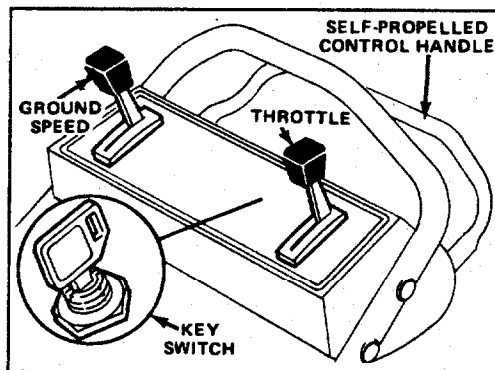
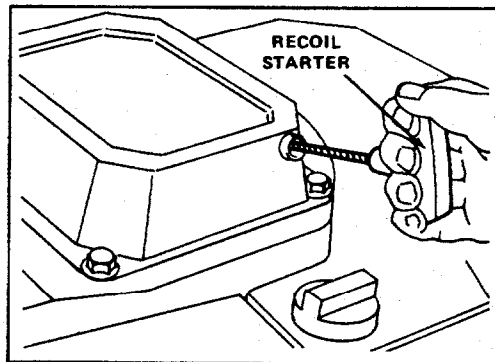

Figure 9
Figure 11
1. **CONTROLS**—Key switch (Model 26624 only), throttle, ground speed control, and blade/self-propelled control bar are on upper handle (Fig. 9). Recoil starter is on top of engine.
3. Move ground speed control to "N" (Fig. 9).
4. **KEY-ELECTRIC STARTING** (Model 26624 only)—Move throttle (Fig. 9) to CHOKE. Turn key (Fig. 9) to START and release when engine begins running. Regulate throttle as desired. If the battery's charge is too weak to start the engine, the engine can be started with the recoil starter (Fig. 11).
5. **MANUAL STARTING** (Model 26622)—Move throttle to CHOKE. Pull engine mounted recoil starter out until positive engagement results; then pull vigorously to start the engine (Fig. 11). Regulate throttle as desired when engine starts.
6. **GROUND SPEED** (Fig. 9)—Move ground speed control to desired setting. Number "1" is slow, "2" is medium, and "3" is a fast walking pace. Move ground speed control to "N" when using the mower for trimming and whenever leaving mower.
8. **STOPPING** (Fig. 9)—Release control bar to stop blade and traction drive. Move ground speed control to "N". To stop engine, move throttle to OFF. Remove key from switch or pull wire off spark plug if mower is unattended or not used.